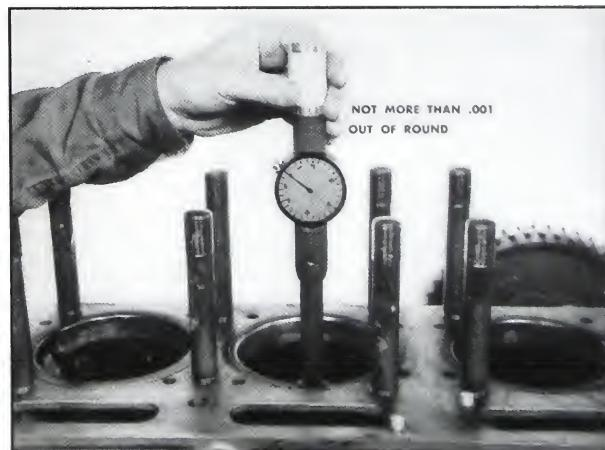

Fig. 2-43. Gauging cylinder liner bore
3. Assemble the proper amount of shims around the liner and push it into place with hand pressure only. Check the liner bore crosswise and endwise of the engine at various points within the range of piston travel. (Fig. 2-43). New $4\frac{7}{8}$ " liners are 4.877/4.876 I.D. New $5\frac{1}{8}$ "